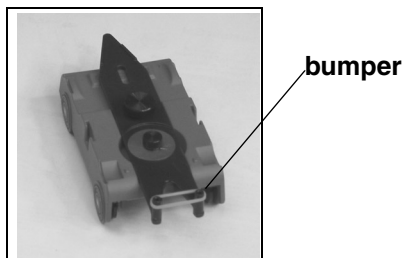

Figure 3a: Bumper on Car
- 3.a) Put the bumper on the car, as shown in Figure 3a. Use two rubber bands. b) Release the car "backwards" with the rubber band part of the bumper in front.